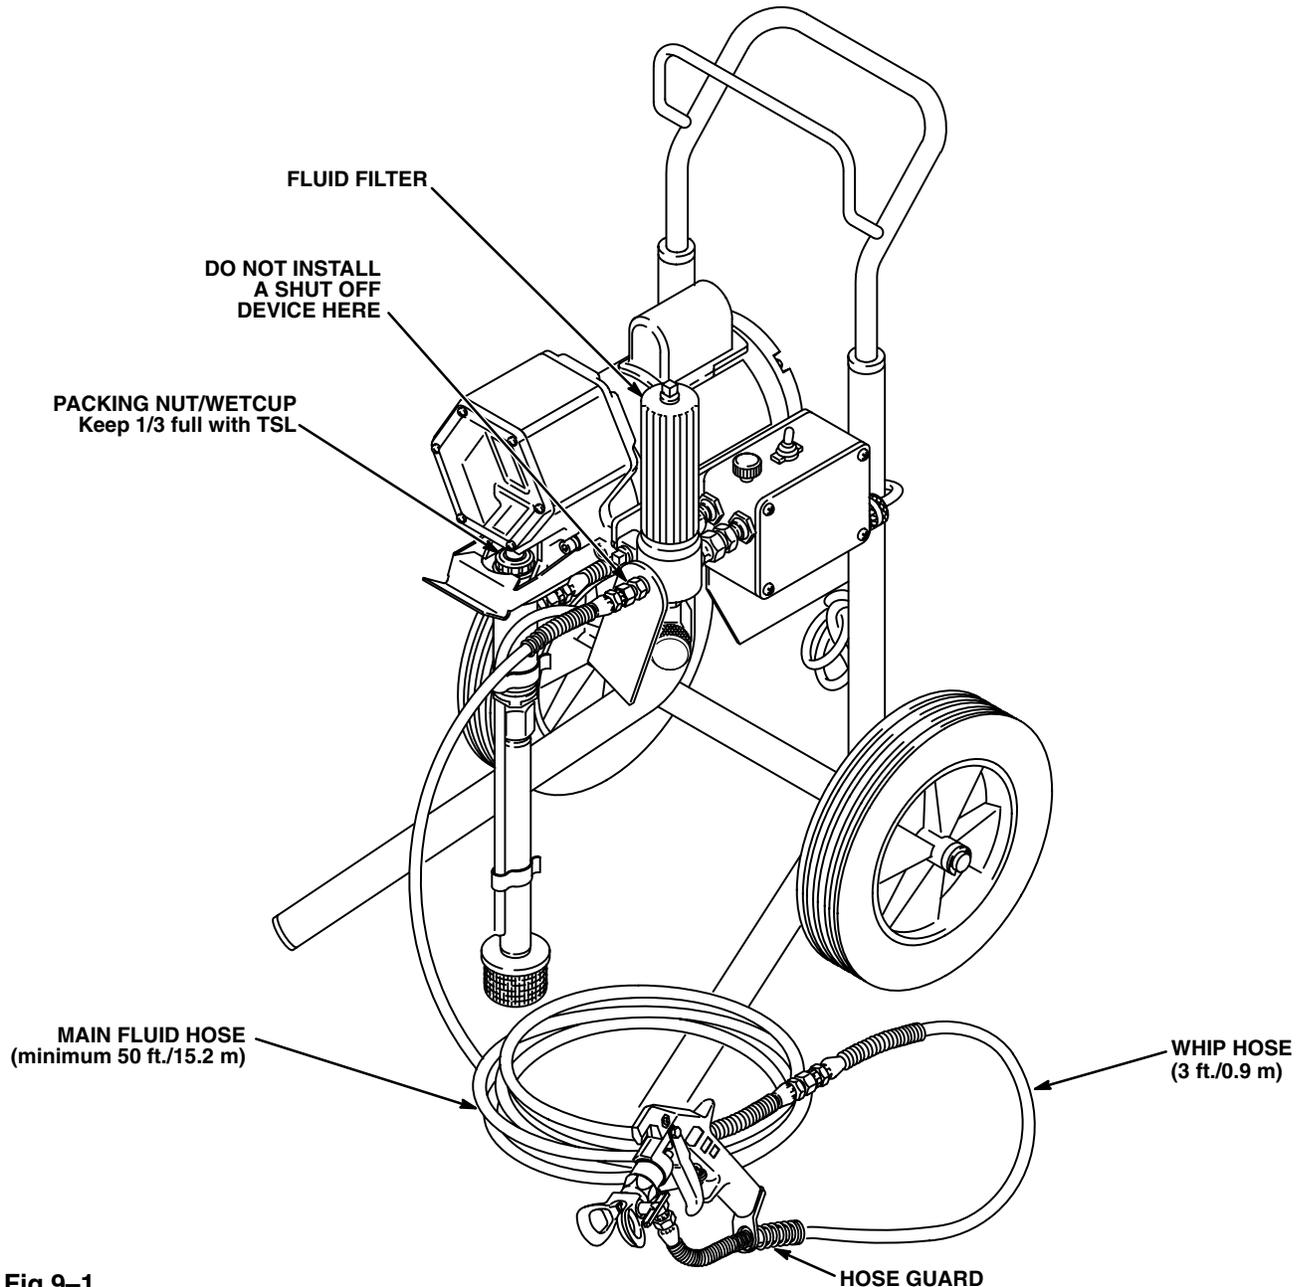

Fig 9-1
3. Never install any shutoff device between the filter and the main hose. See Fig 9-1.
- a. Be sure the ON/OFF switch is OFF. See Fig 9-1.
### 1. Connect the hose and gun. See Fig 9-1.
1/3 full with Graco Throat Seal Liquid (TSL), supplied. Remove the plastic plug from the top of the pump first. See Fig 9-1.